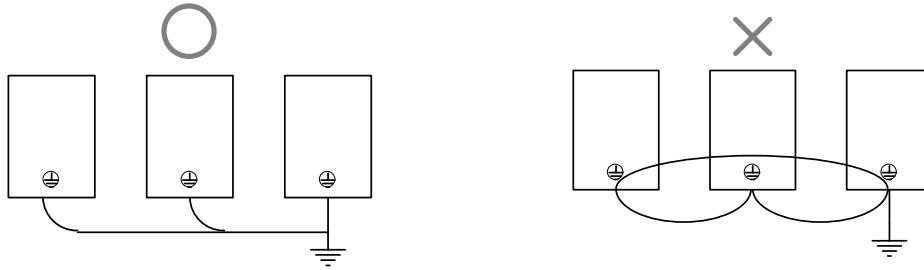

Figure 4.10 Grounding method of more than one Inverter
The method to ground more than one Inverter is shown in Figure 4.10.
- b) During normal operation of the elevator, the 220VAC UPS power may also be connected to R0 and T0. The connection method is shown in Figure 4.10.